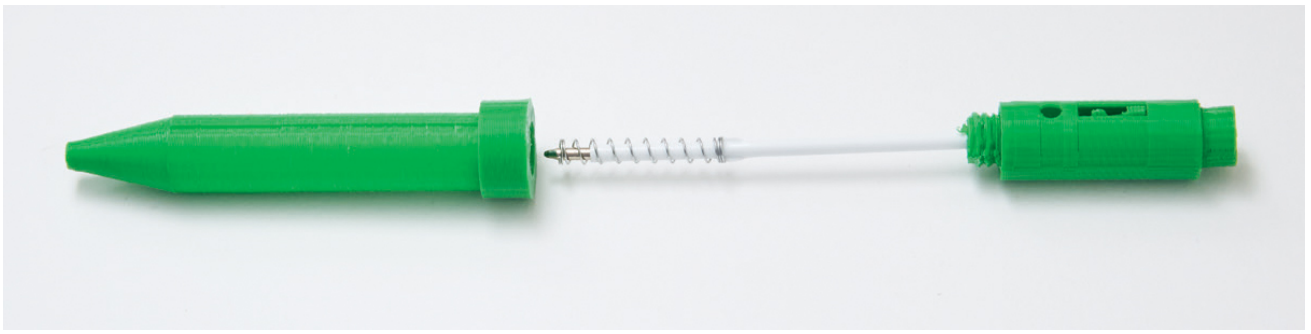

FIG. 9: *The assembly sequence of 3D-printed pen parts.*
- Push the **On/Off** button to push the refill out of the casing and push it back to retract the refill tip. See fig. 9 for exploded view of assembly sequence.